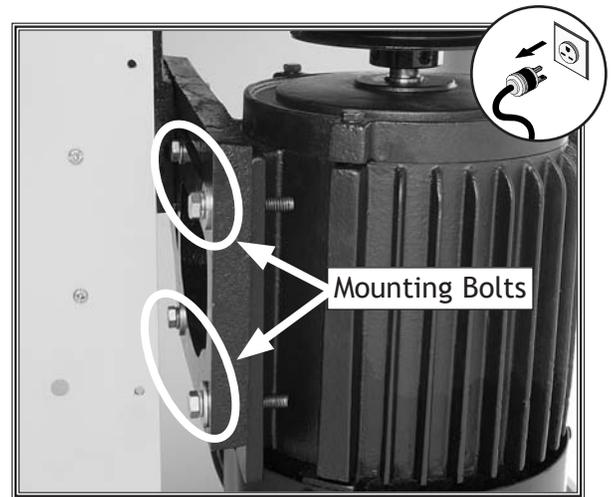

Figure 67. Motor mounting bolts behind the motor mount.
2. Remove the motor cover from the cabinet, then loosen the two motor mounting hex bolts that are behind the motor mount (see Figure 67).